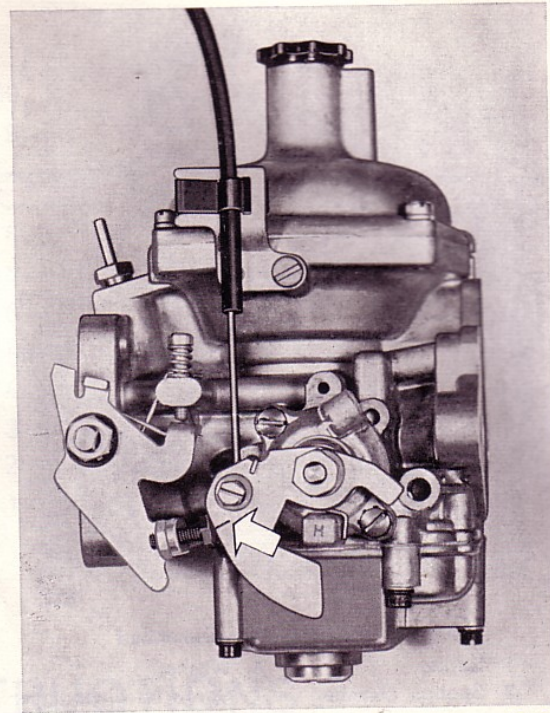

Fig. 97 Fast idle
6. Setting the fast idle: Pull out the choke 23–25 mm (almost 1") so that the mark on the rapid idle cam comes opposite the centreline of the rapid idle screw. See Fig. 97.
- Setting the fast idle: Pull out the choke control 23-25 mm (almost 1") so that the mark on the rapid idle cam comes opposite the centreline of the rapid idle screw. See Fig. 97. Then adjust the rapid idle screw to give an engine speed of 1100-1300 r.p.m.
6. Setting the fast idle: Pull out the choke control 23–25 mm (almost 1") so that the mark on the fast idle cam comes opposite the centreline of the fast idle screw. See Fig. 97. Then adjust the fast idle screw to give an engine speed of 1100–1300 r.p.m.
6. Setting the fast idle: Pull out the choke control 23–25 mm (almost 1") so that the mark on the fast idle cam comes opposite the centreline of the fast idle screw. See Fig. 97.